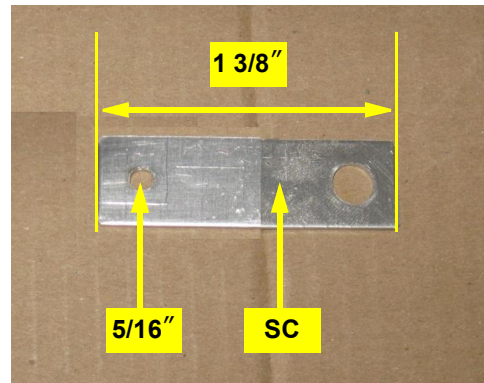

Figure 1b: Cut and drilled sensor arm
- b. Cut the sensor bracket SC to a total length of $1 \frac{3}{8}$ ". Drill a $\frac{5}{16}$ " hole at the opposite end to the pre-drilled hole in the sensor arm (Figure 1b).